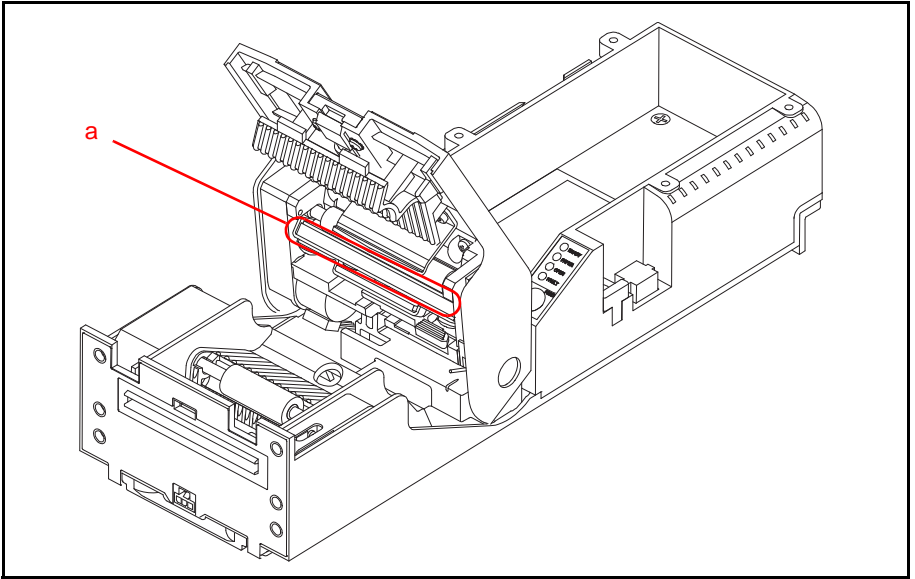

Figure 6 Clean Print Head
5. Wipe the Print Head surface clean using a new cleaning swab (refer to Figure 6 a on page 7).